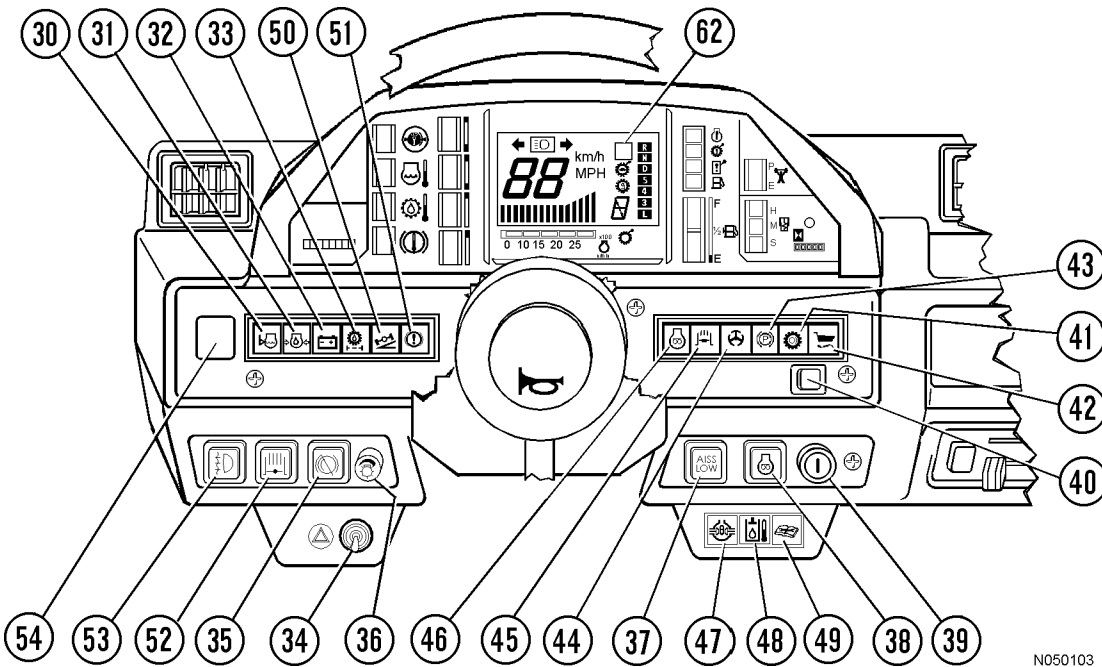

FIGURE 3-8. INDICATORS AND CONTROL PANEL
OPTIONAL EQUIPMENT (Figure 3-8)
- Fog Light Switch (53),
then the instrument panel arrangement for items 34, 35, and 36 will be as shown in Figure 3-8.
The Coolant Level Monitor (30, Figure 3-8) indicates a low radiator coolant level. If this monitor lamp flashes and alarm buzzer sounds, stop truck, shutdown engine, and add coolant as required. Action code "01" will be indicated.
The AISS (Automatic Idle Selector Switch, 37, Figure 3-8) may be positioned to LOW or AUTO as desired. This switch is used by the operator to control the idle speed of the engine.
The Starting Switch (39, Figure 3-8) is a three-position key-switch:
The Maintenance Monitor Lamp (49, Figure 3-8) will illuminate if the PMC (Powertrain Management Controller), detects any of the following conditions: